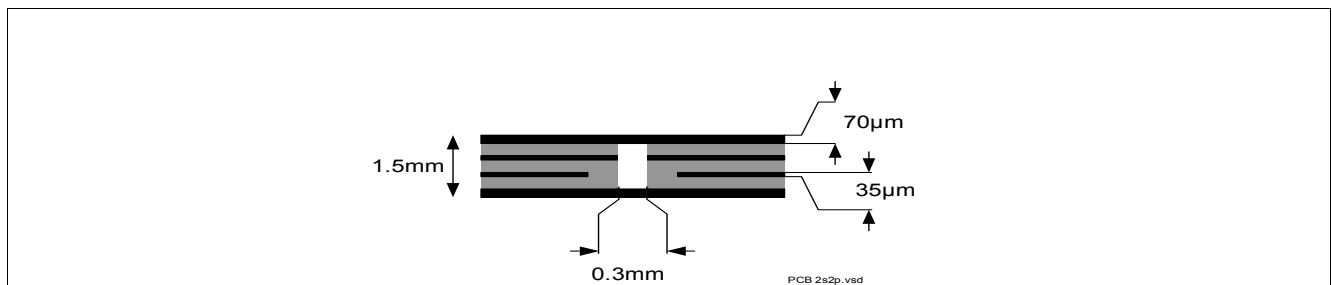

Figure 4 2s2p PCB Cross Section
- 2) Specified R_{thJA} value is according to JEDEC JESD51-2,-5,-7 at natural convection on FR4 2s2p board with 1 W power dissipation at $T_A=105^\circ\text{C}$. The product (chip + package) was simulated on a 76.4 x 114.3 x 1.5 mm board with 2 inner copper layers (2 x 7 μm Cu, 2 x 35 μm Cu). Where applicable, a thermal via array under the exposed pad contacts the first inner copper layer. Please refer to Figure 4.